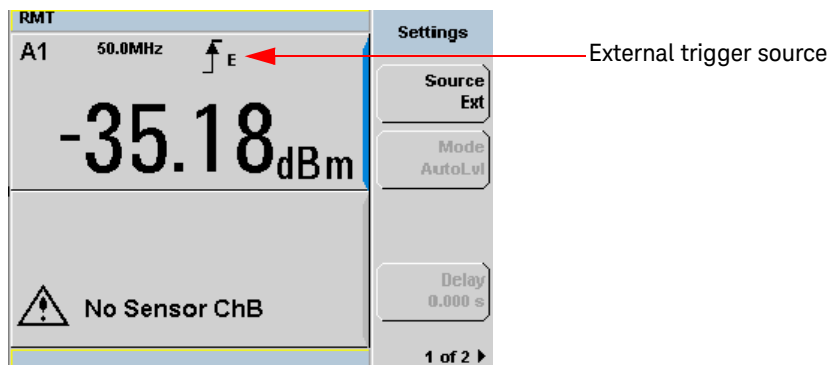
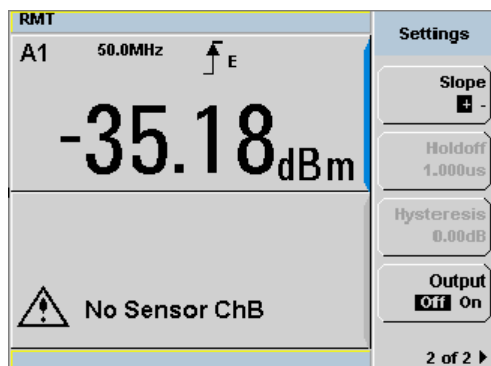

Figure 2-46 Trigger setting menu 1 of 2
Figure 2-47 Trigger setting menu 2 of 2
- 7 Press **Settings** to configure the remaining trigger parameters. The trigger Settings menu consists of two pages. **Figure 2-46** shows page 1 and **Figure 2-47** shows page 2.
- 7 Press **Settings** to configure the remaining trigger parameters. The trigger Settings menu consists of two pages. Figure 2-46 shows page 1 and Figure 2-47 shows page 2.